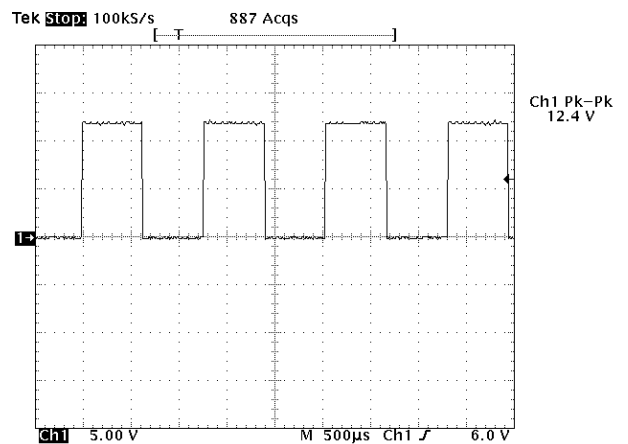

Figure 6-9: TP-18
- B. If no, connect the scope common to TP-1 and the probe to TP-18. Is a 12 V_{p-p} (approximate) signal present (as in Figure 6-9)?